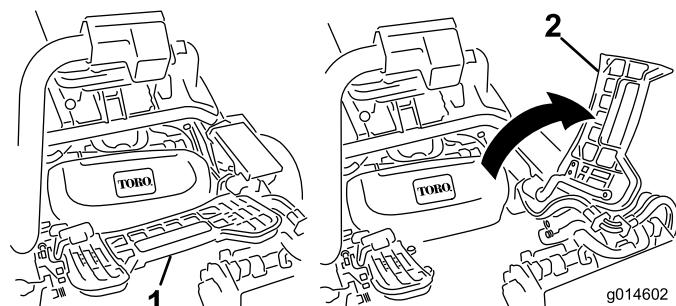

Figure 32
- 1. Lift up on the foot rest and swing it open, allowing access to the center cutting unit position (Figure 32).